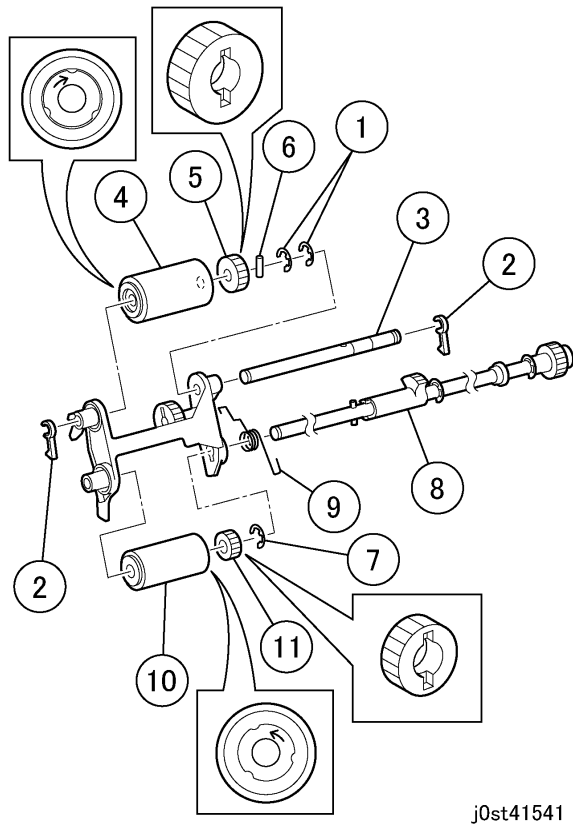

Figure 4 Removing the Nudger Roll and Feed Roll (j0st41541)
5. Remove the Nudger Roll and Feed Roll. (Figure 4)